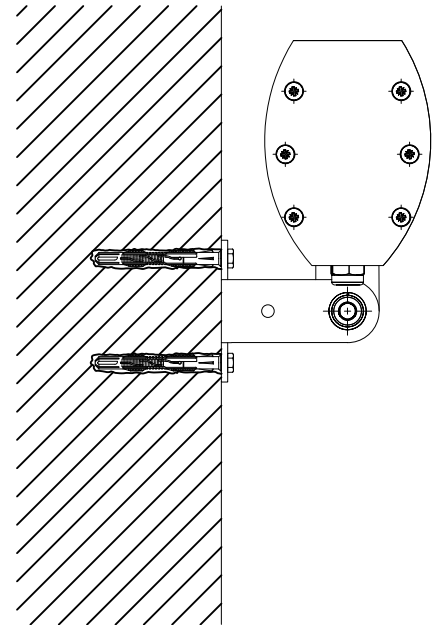

Fig. 2
- First attach the top of the bracket, then turn the luminaire and attach the other side. (Fig. 2)